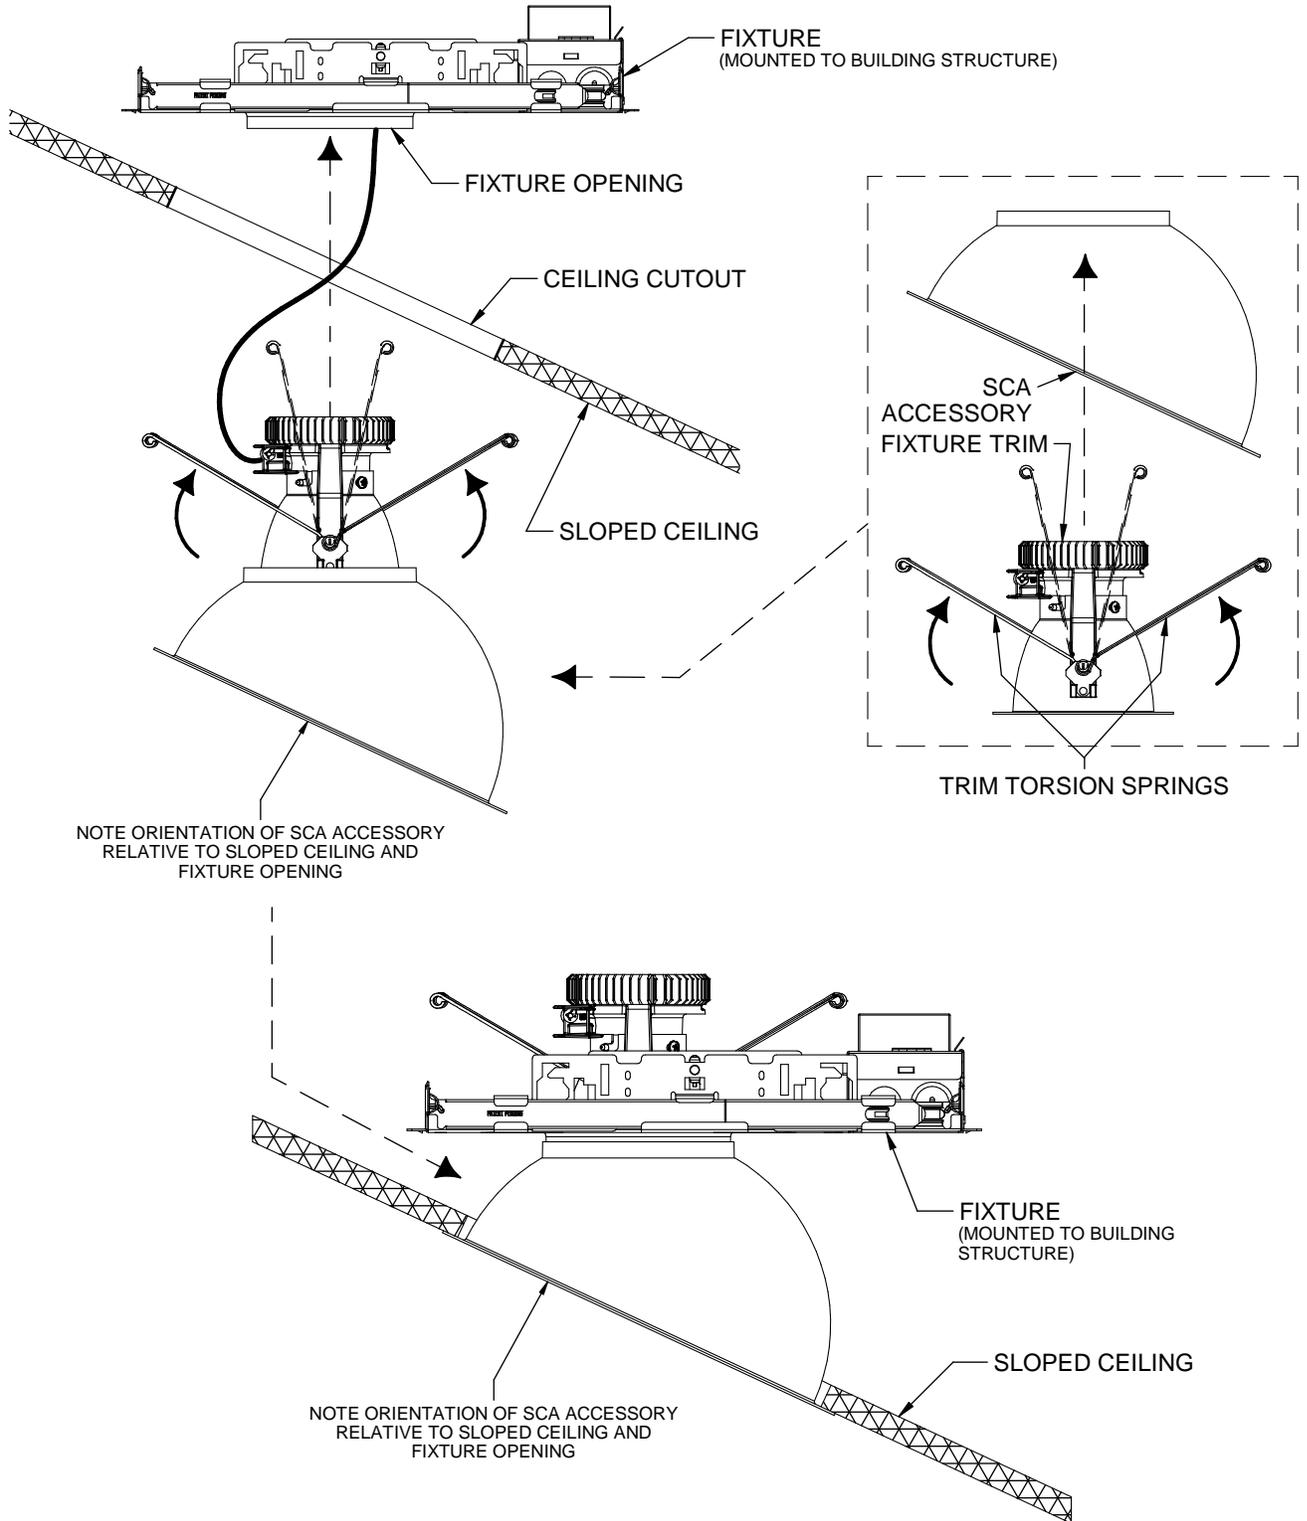

Figure 3
- a. For LTR-4RD and LTR-6RD fixtures, squeeze torsion springs on trim and insert trim inside the SCA accessory as shown in "Figure 3". **Note:** *It can help to use a paper clip to keep torsion springs together while performing this step to aid in protecting SCA accessory finish.*
- c. Squeeze torsion springs on trim and insert into torsion spring brackets on frame installed in ceiling with SCA accessory oriented as shown in "Figure 3" relative to sloped ceiling. **Note:** *if paper clips were used to hold torsion springs together for the previous step, remove them before installing trim into the frame.*
IMPORTANT: LITEISTRY™ SCA accessory must be installed in orientation as shown in "Figure 3" relative to sloped ceiling and fixture or it will not install properly.